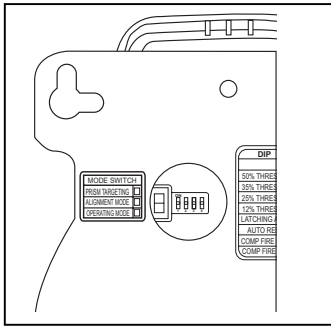

Fig 12 Mode switch
1. Switch on the beam detector. Push the mode switch (**Fig 12**) up to 'prism targeting mode'.
2. Push the mode switch (**Fig 12** on page 13) down to Operating Mode.